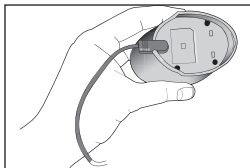

Fig. 1
2. Insert the AC adapter directly into the underside of the housing, Fig 1. For hands-free operation, use with the included base, Fig 2.